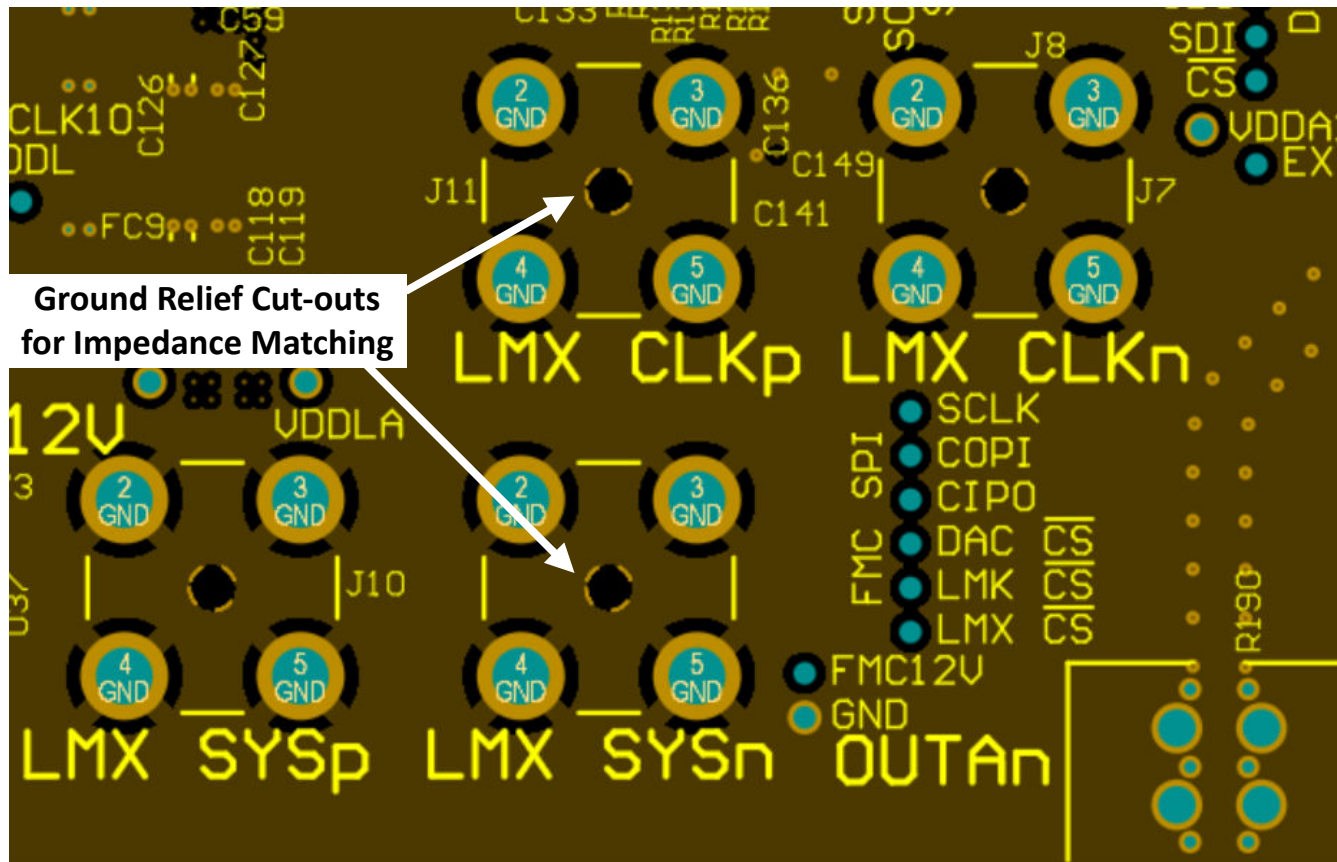

Figure 8-25. Ground Cut-out Below SMA Connector Center Pin
5. Incorporate any ground plane cutouts necessary at component landing pads, ie – SMA connectors, baluns, and so on, to avoid impedance discontinuities at these locations. Cut-outs below these landing pads on one or multiple ground planes to achieve a pad size or stackup height that achieves the needed 50Ω , single-ended impedance. See Figure 8-24 and Figure 8-25 as an examples.